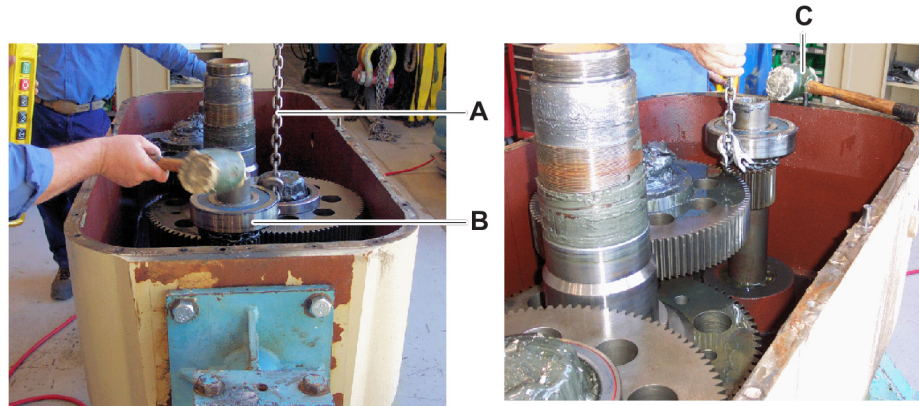

Figure 17
- Using the hoist and lifting chains (Figure 17, item A) attached to input pinion assembly (item B), lightly tap the assembly with either a rawhide or rubber mallet (item C) to remove the input pinions with the attached bearings from the housing. Use a large stationary hydraulic press to push the bearing off of the pinions.